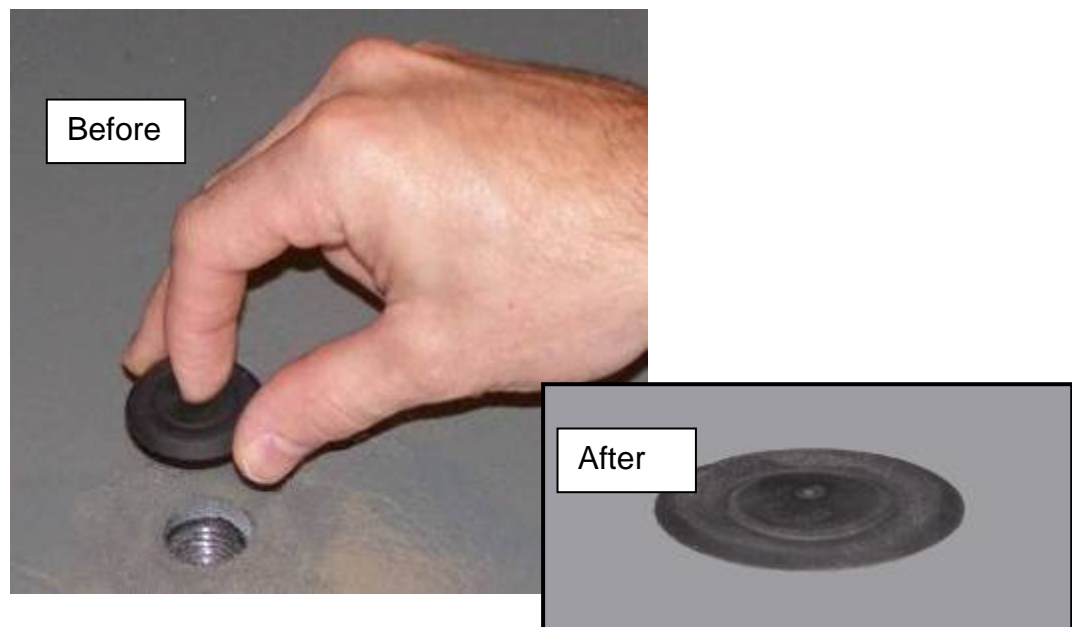

Figure 38 Plugging Holes in Deck
3. Install the plastic plugs provided in all lifting eye & maintenance hatch holes (**Figure 38**).